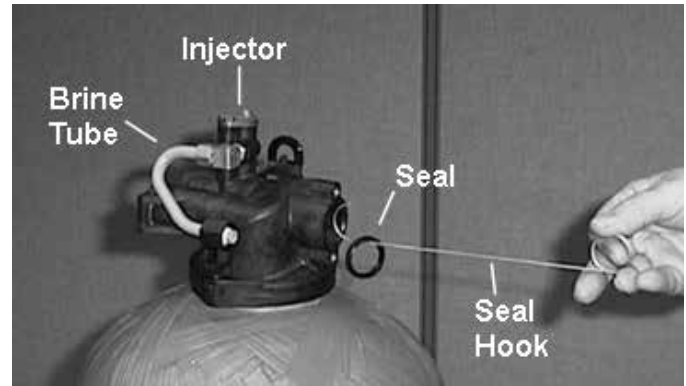

Figure 7
6. Remove the seal first using the wire hook with the finger loop (see Figure 7).